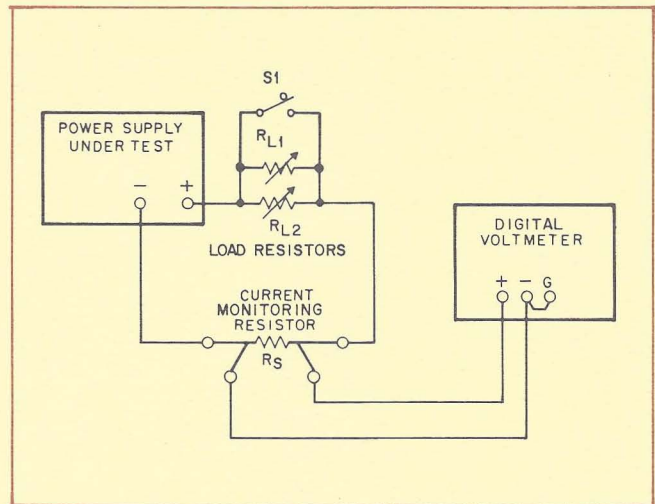

Figure 9-5. 6002A Constant Current Test Setup
The following paragraphs provide detailed operating instructions required to program the 6002A for constant voltage or constant current operation. Refer to figures 9-5 and 9-6 for adjustments and component locations respectively.
- c. Use the constant current test setup (figure 9-5) except set RL1 and RL2 to approximately 3.5 ohms each and use a 0.01 ohm resistor for current sampling resistor RS.
- e. Adjust constant current (CC) zero output by connecting an oscilloscope to the +S and -S terminals and repeating one and two below.
- f. Adjust CC high range full scale output by programming data word 2999 and adjusting A300R7 for a reading of .0999V on a digital voltmeter (connected across R(S) as shown in figure 9-5).